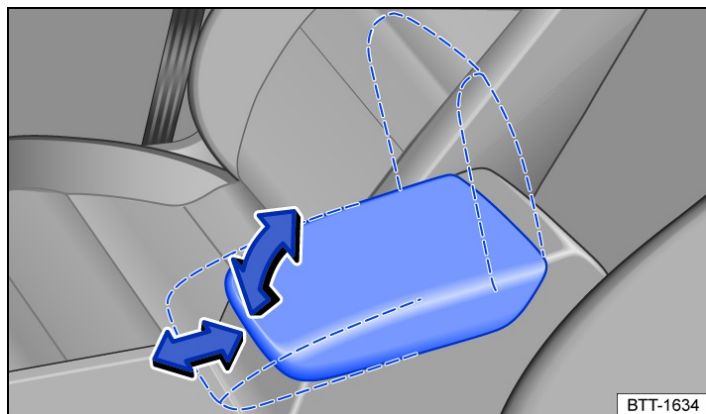

Fig. 1 Front centre armrest.
- To *move it backwards and forwards*: push the centre armrest in the direction of the arrow all the way forwards → Fig. 1, or all the way backwards.